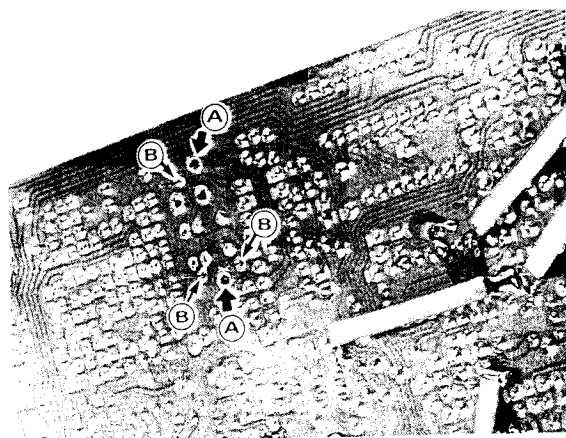

Figure 3
- (3) Install the TXCO Unit as shown in Figure 3, and solder the TCXO case at points A (2 places), and solder the TCXO leads at B (3 places). Then trim the leads, and reinstall the Local Unit.